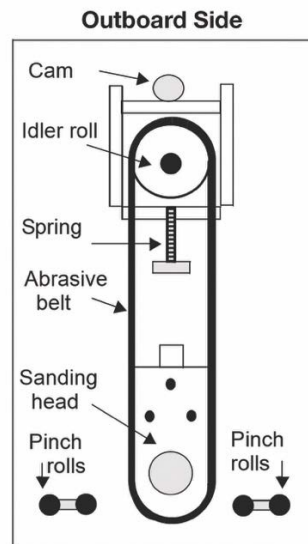

Figure 9-13: Installing Abrasive Belt
4. Move to the machine's outboard side and remove the old abrasive belt by sliding it off of the idler roll and sanding head (see Figure 9-13).